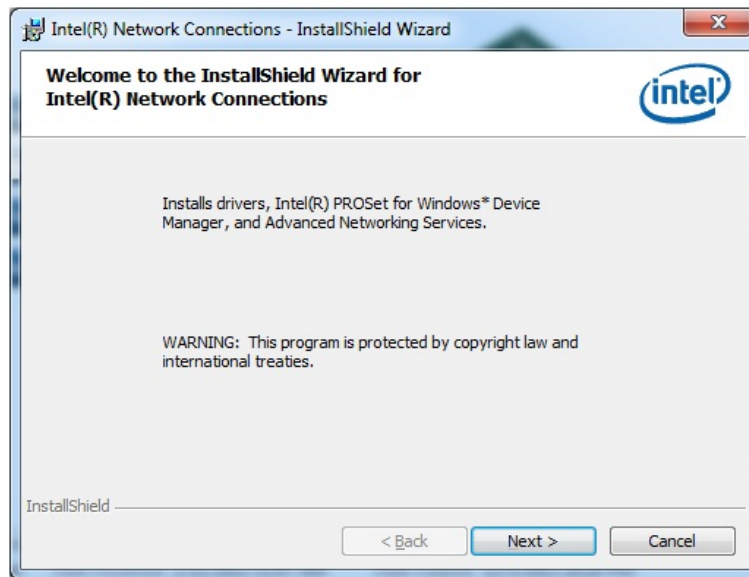

Figure 6-14: LAN Driver Welcome Screen
Step 7: The **Welcome** screen in **Figure 6-14** appears.